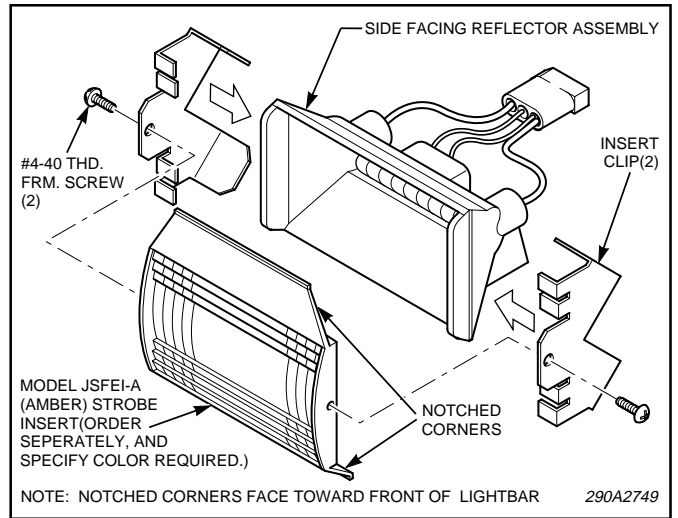

Figure 6.
1. See figure 6. Position two insert clips on the side facing reflector/flash tube assembly and press the clips until they slide into position.
2. Position the separately purchased insert as shown in figure 6. Align the holes in the insert with the holes in the clips and secure with two #4 screws.